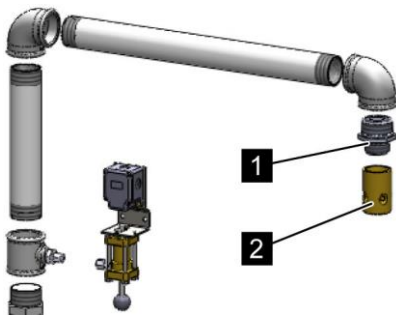

Fig. 57: Mounting the discharge nozzles
4. ➤ Wrap fitting (Fig. 57/1) with a suitable sealant (e.g. Teflon sealing tape) and screw the discharge nozzle (Fig. 57/2) onto the vertically aligned fitting.